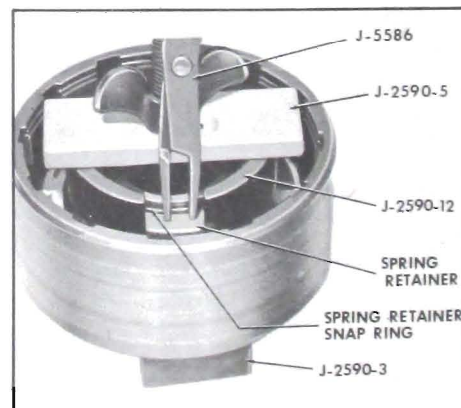

Figure 5-233
7. With spring retainer in place compress spring retainer with tools J-2590-3, J-2590-12 and J-2590-5 far enough so the spring retainer snap ring can be installed. Make sure retainer doesn't catch in snap ring groove when compressing springs. See Figure 5-233.